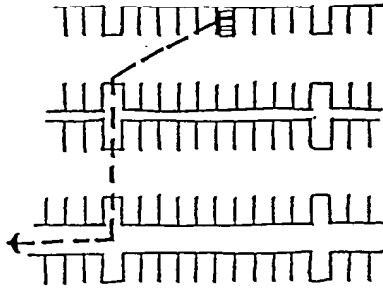

Figure 24
- ☐ *Provide clear and direct paths for visitors and employees to walk from their cars to building entries while minimizing the use of vehicular driveways as pedestrian paths (Figure 24).*